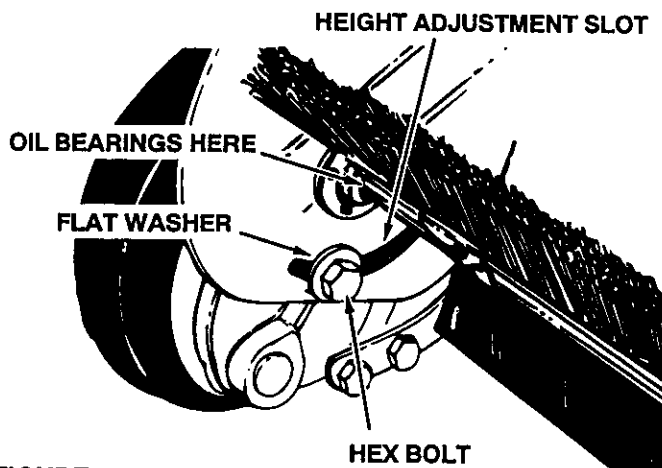

FIGURE 23
- To adjust your sweeper brushes to the best operating height, loosen the adjustment knob and push down on the height adjustment lever to raise the brush, or push up on the lever to lower the brush. See figure 23 on page 12. Best adjustment is when the brush setting is 1/2" down into the grass. Always mow the grass to an even height before sweeping.
- Lubricate the brush shaft bearing twice a year with a few drops of light weight oil. See figure 23.